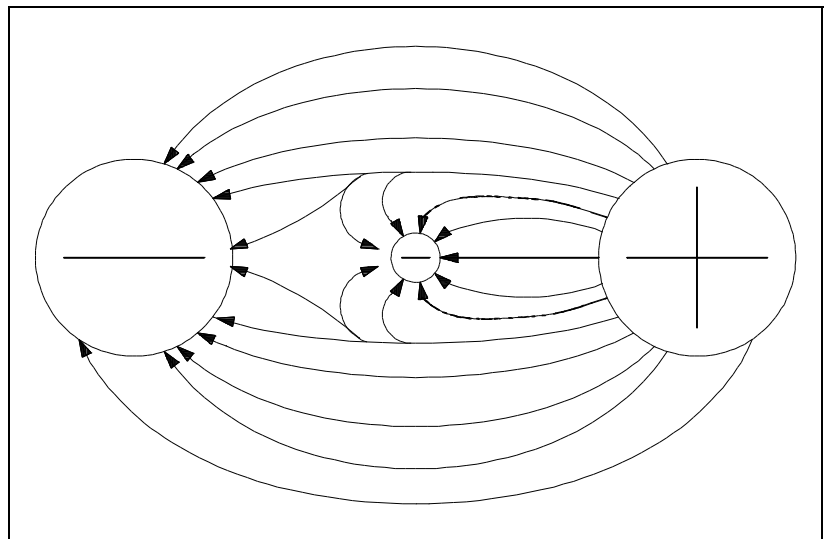

Figure 7 Potential Difference Between Two Charged Objects
*Potential difference* is the term used to describe how large the electrostatic force is between two charged objects. If a charged body is placed between two objects with a potential difference, the charged body will try to move in one direction, depending upon the polarity of the object. If an electron is placed between a negatively-charged body and a positively-charged body, the action due to the potential difference is to push the electron toward the positively-charged object. The electron, being negatively charged, will be repelled from the negatively-charged object and attracted by the positively-charged object, as shown in Figure 7.